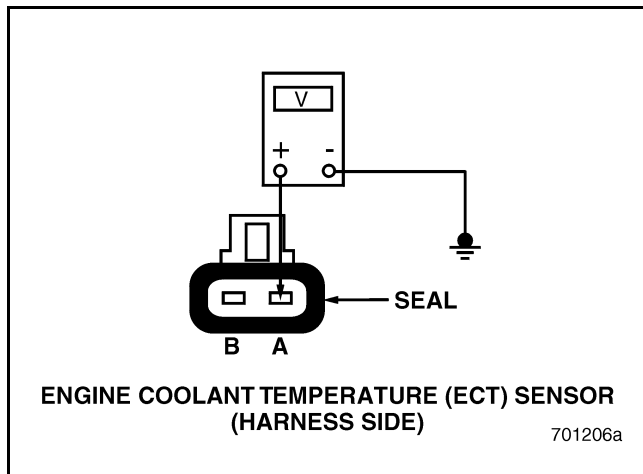

Figure 156
3. Measure the voltage between the ECT Sensor harness connector pin A and a good ground (see Figure 156).